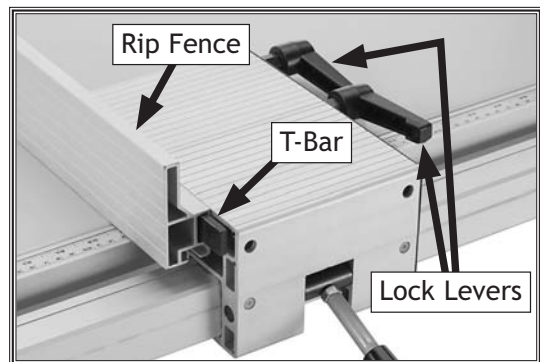

Figure 21. Rip fence installed on fence base.
- Slide the rip fence on the fence base T-bar as shown in **Figure 21**. Use the two lock levers on the opposite side of the fence base to secure the fence in position.